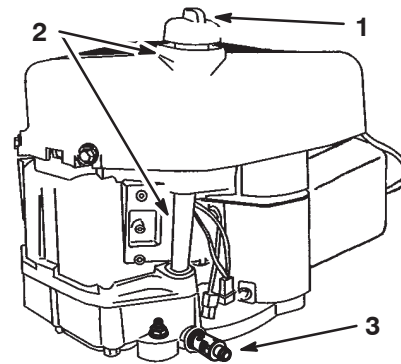

Figure 17
2. Clean around the oil dipstick (Fig. 17) so that dirt cannot fall into the fill hole and damage the engine.
10. Clean around the oil dipstick and unscrew the cap (Fig. 17).
11. Slowly pour approximately 80% of the specified oil into the filler tube (Fig. 17). Refer to Servicing the Engine Oil, page 20.